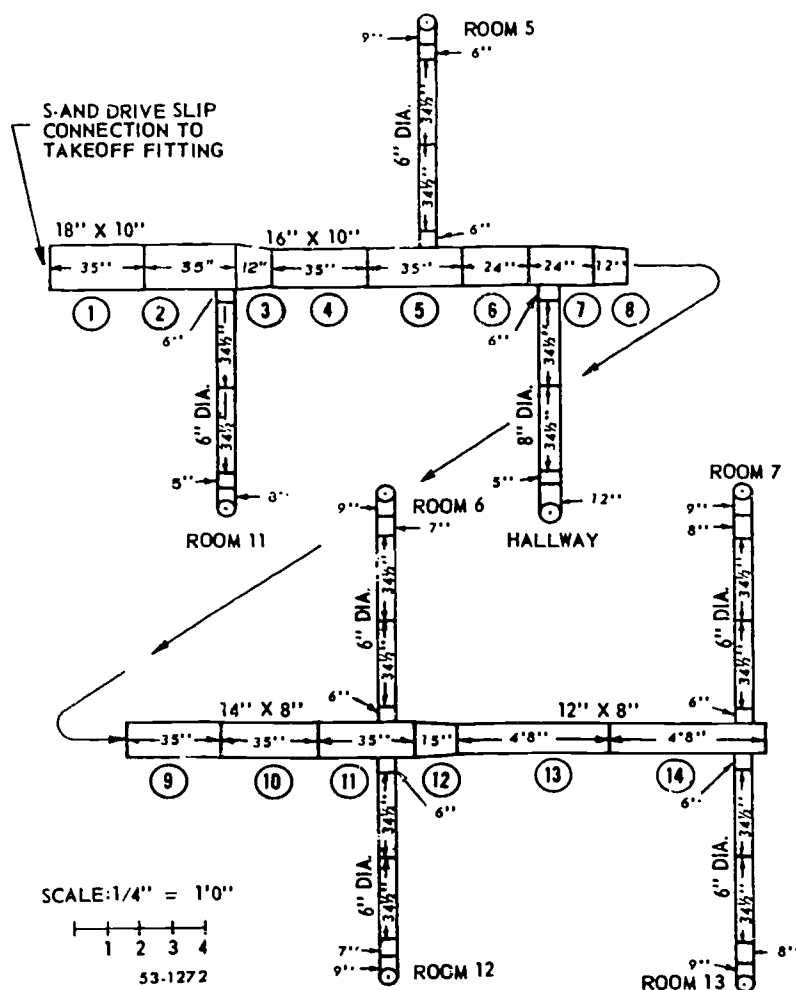
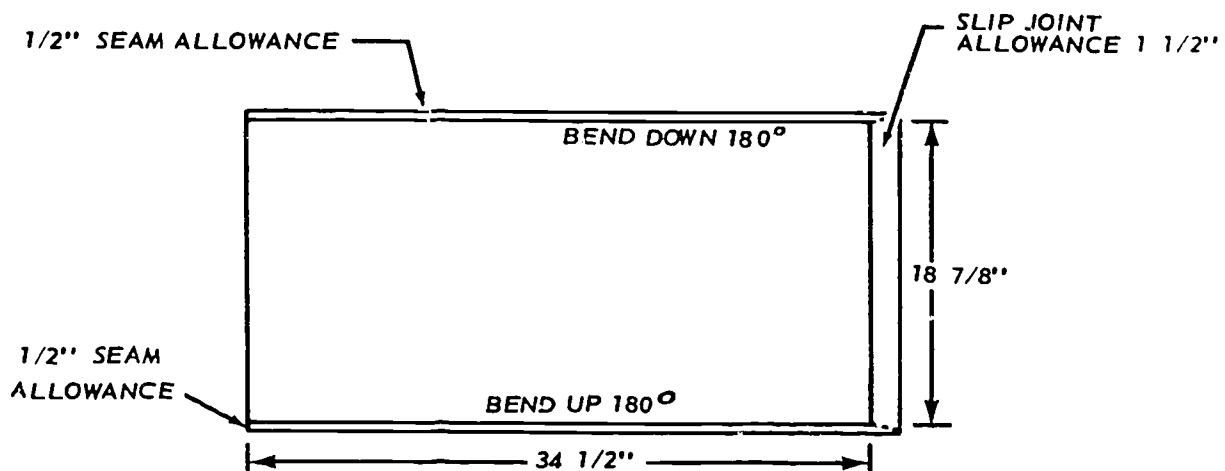
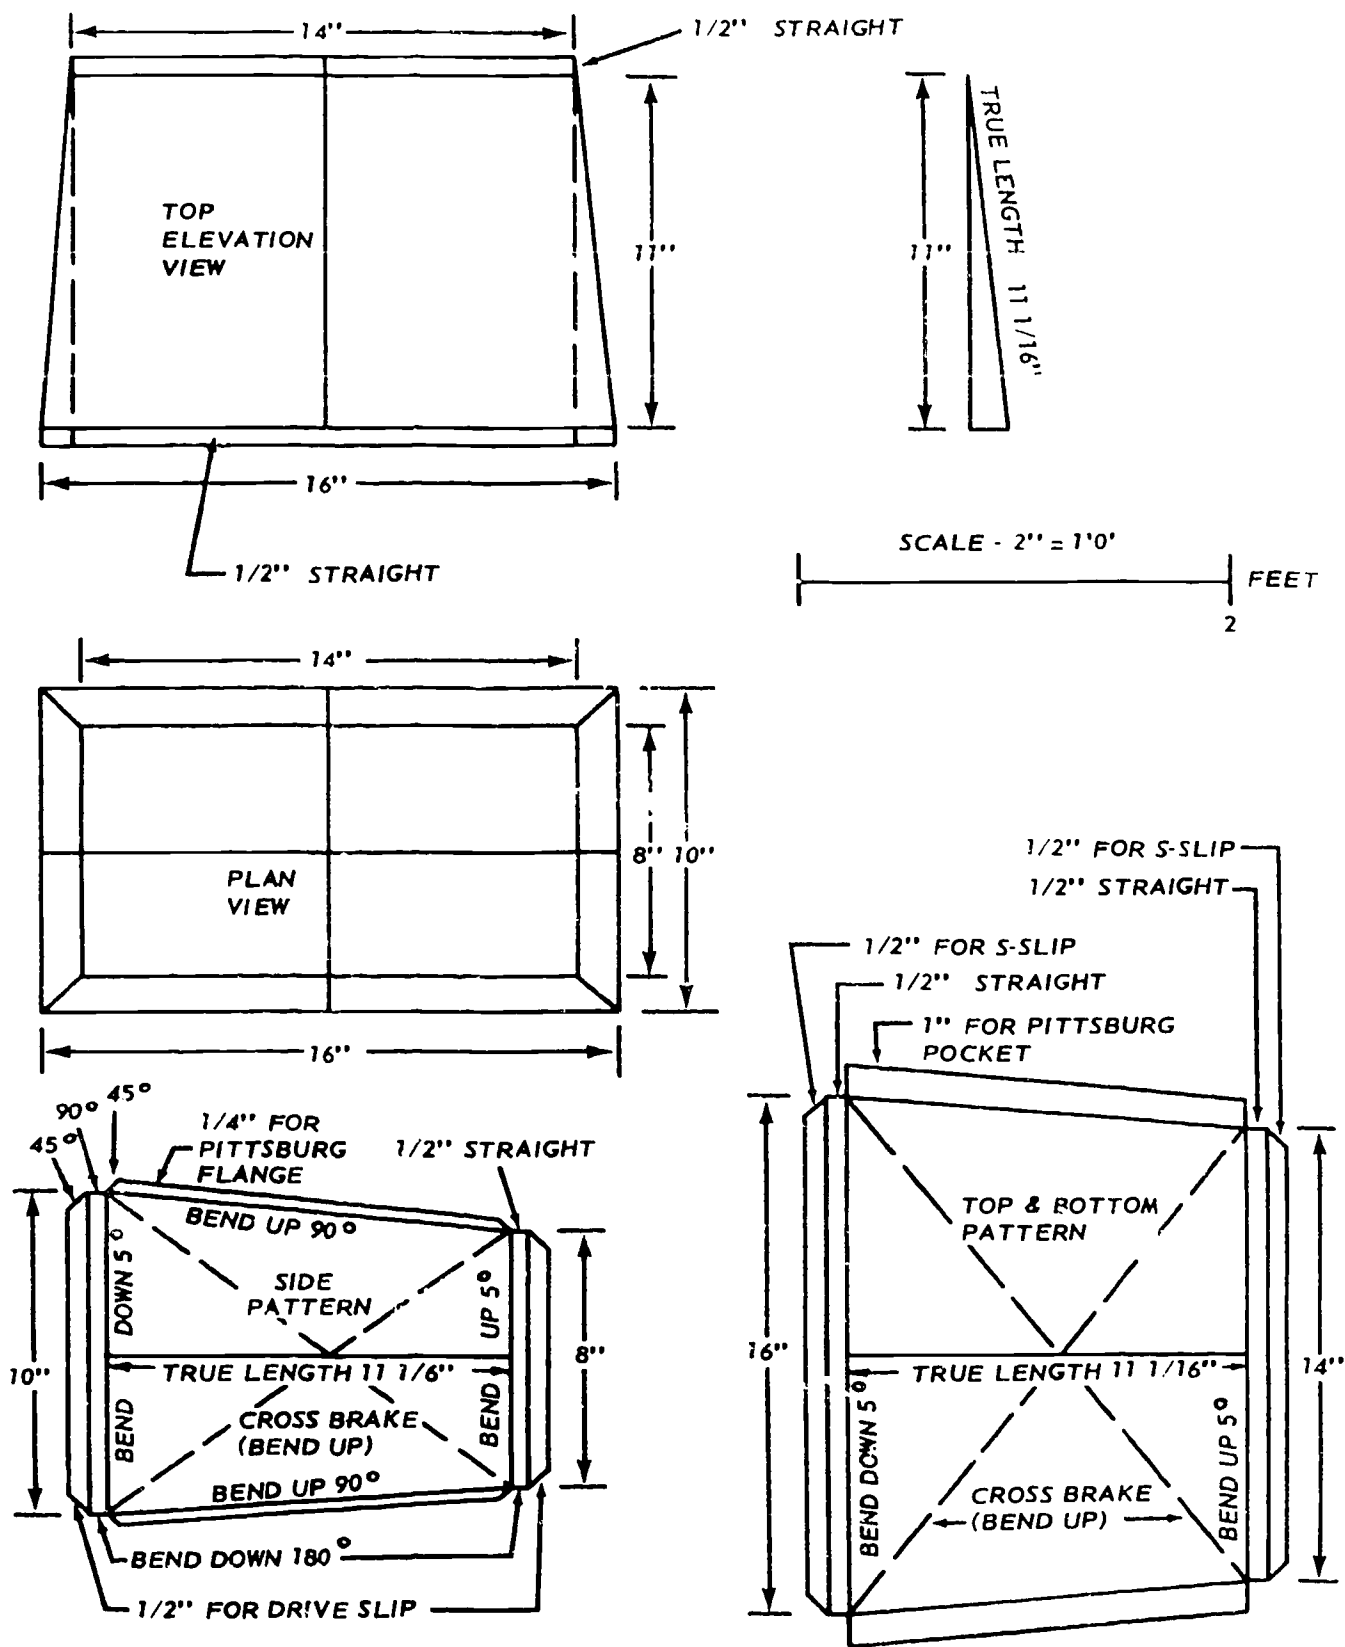

Figure 4-6. Breakdown of trunkline B and branch lines.
Figure 4-12. Pattern for 6-inch round duct joint.
Figure 4-13. Patterns for 16" x 10" to 14" x 8" transition for trunklines B and C.
Now let's determine the size and quantity of sheets needed to plan and fabricate trunkline B. Our first step again is to make a scale drawing of the plan view. Figure 4-6 shows the complete breakdown of trunkline B and its branch lines (Remember to draw only the outside lines and add the joint connection lines and dimensions as you determine the length of each joint). Although we have divided the trunkline into two parts in order to fit them on one page, we recommend that you make your own drawings larger and draw the trunkline in a straight line. The four sections of trunkline B all have the same centerline.
To find the length of the joints for trunkline B, draw the joint connection lines as shown in figure 4-6,
The transitions in trunkline B are joints 3, 8, and 12, as shown in figure 4-6. Transitions 3 and 12 are made in four pieces like the takeoff fitting 7 of trunkline A because only one of the two dimensions reduces. Transition 8 is also made in four pieces but is somewhat different because both dimensions reduce. Later in this chapter when you lay out the patterns for these transitions, you will find that the true length of the sloping sides requires  $1/16$ -inch additional material. Look at sheet 6 in figure 3-8, and you can see that there is sufficient leftover material on the sheet to include the extra  $1/16$  inch needed for joints 3, 8, and 12.
**Branch Lines.** Earlier in this chapter, when you were breaking down the duct system, you learned that trunklines B and C had a total of twelve 6-inch and three 8-inch round duct branch lines. You also found the length of each branch line. Now you are ready to determine how much material they will require and the size and quantity of sheets needed. As with the rectangular duct, the first step is to make scale drawings of the round duct branch lines, as we have done in figure 4-6, 4-9, and 4-10.
You find the pattern dimensions for the 8-inch round duct joints in the same way. Notice in figures 4-6 and 4-9 that not all of the 8-inch diameter joints are on  $34\frac{1}{2}$ -inch centers.
As you continue determining the materials for the branch lines, you notice in figures 4-6 and 4-9 that all of the takeoff fittings are 6 inches long. These takeoffs are simply 6-inch joints of round duct fastened to the trunklines with dovetail seams. Remember from Chapter 1 how dovetail seams are made and that the seam allowance is  $\frac{1}{2}$  inch. Also you note in figures 4-6, 4-9, and 4-10 that the center-to-center lengths of the 6-inch elbows are 9 inches and of the 8-inch elbows are 12 inches. This leaves one short joint in each branch line to compensate for the differences in the length of the
If you are required to make elbows, you will find that, if the patterns for the 5 gores of each elbow are laid out side by side, the 6-inch elbow requires a  $12\frac{1}{4}" \times 19\frac{7}{8}"$  piece of material and the 8-inch elbow requires a  $15\frac{1}{2}" \times 26\frac{1}{8}"$  piece of material. The branch lines shown in figures 4-6, 4-9, and 4-10 include twelve 6-inch elbows and three 8-inch elbows. With this information, you can easily determine how many sheets of metal you need to make the 15 elbows.
**Round duct joint patterns.** All round duct joints in the branch lines are made in the same way except for the dimensions. In figures 4-6 and 4-9, most of the round duct has a 6-inch or 8-inch diameter, with the length made on a  $34\frac{1}{2}$  inch center. Since the sides of the pattern are parallel, the parallel-line method of layout is used. Without allowances, the pattern for a 6-inch round joint on a  $34\frac{1}{2}$ -inch center is a rectangle  $18\frac{7}{8}$ " x  $34\frac{1}{2}$ ", as shown in figure 4-12. The  $18\frac{7}{8}$ -inch side of the pattern is the circumference of the 6-inch joint, and each edge has  $1/2$ -inch allowance for the  $5/16$ -inch grooved seam. Notice that one edge is to be bent up and the other is to be bent down. The length of the pattern is  $34\frac{1}{2}$  inches plus  $1\frac{1}{2}$  inches for the crimped slip joint, making a total length of 36 inches. The patterns for the other round duct joints in the branch lines are like this one, except for their dimensions. The seam and connection allowances are the same for all round joints, except for the round joints that attach to the trunklines with dovetail seams.
**Transition patterns.** Trunklines B and C in figures 4-6 and 4-9 have three transitions each. These six transitions are similar, except for the two that have a reduction in both dimensions (joint 8 of trunkline B and joint 9 of trunkline C). Figure 4-13 shows the development of the patterns by the triangulation method for the sides, top, and bottom of the transition. First, draw a plan view of the larger rectangle (16" x 10"), as shown in figure 4-13. Next, draw the smaller 14" x 8" rectangle inside the larger rectangle. Note the corner diagonals and the centerlines. The next step is to project the vertical lines and make the top elevation view. The height of the transition is 12 inches, but you must leave  $1/2$  inch straight at each end so that the S-and-drive slips will connect properly. This makes the height of the elevation view (not counting the straight)
11 inches, as shown in figure 4-13. The true length (height) of the sloping sides when they are drawn to actual size (or scale) is  $11\frac{1}{16}$  inches, making the total length of the pattern, including allowances,  $13\frac{1}{16}$  inches.
The patterns for the top and bottom, before the S-and-drive allowances are included, are identical to the elevation view except that the true length is used. To the top and bottom pattern in figure 4-13, you must make  $1/2$  inch S-and-drive allowances at each end, and make 1-inch Pittsburgh seam pocket allowances at both edges. Notice how the straights are bent, one up  $5^\circ$  and one down  $5^\circ$ . The patterns for the two sides of the transition are identical. In figure 4-13, the 1-inch straight on the widest end is 10 inches long, and the other straight is 8 inches long. These straights are  $11\frac{1}{16}$  inches apart. Notice the allowances of  $1/2$  inch at each end and  $1/4$  inch at each side. In both patterns, the bending instructions, notching instructions, and cross brake lines are shown.
**Cutting and Notching.** Such patterns as those shown in figures 4-13 and 4-14 contain information you can use for cutting and notching. For example, figures 4-4 and 4-8 show how you can arrange the patterns on full-size sheets in such a way that you will have very few leftover pieces after cutting. This information, combined with what you learned about sheet metal cutting equipment in Volume 2 of this course, should help you cut and notch patterns of almost any shape. Most of the patterns for this heating and air-conditioning duct system can be cut with squaring shears or unishears and notched with straight snips.
The patterns for the round duct joints are easy to cut because they are rectangular and do not have notches. Figure 4-12 shows the pattern for the 6-inch round joint used extensively in the branch lines. Note that the size of the pattern, including allowances, is 19⅞" x 36". Patterns this size can be cut from 3' x 8' or 3' x 10' sheets with very little leftover material. Since several joints of this size are to be made, you can save time by setting the back gage of the squaring shears for 19⅞ inches and cutting all of the pieces from whole sheets of metal.
The patterns for the transitions shown in figure 4-13 are to be cut from sheet 6 in figure 4-8. Notice that we estimated the top and bottom patterns to be 13" x 18", but because of the true length of the sloping sides, the pattern requires 13" x 18". This additional 1/16 inch can be obtained from the leftover space on sheet 6 (fig. 4-8) without affecting the other patterns. This same additional 1/16 inch is needed for the 2-side patterns,
**Notching patterns.** You make the slits and notches in patterns with straight snips or throatless shears. The straight snips are used most often, but throatless shears have more leverage and require less effort. When using either of these, you must be careful not to make the cuts any longer than is specified on the pattern. Notching is needed so that you can bend the sheet metal along the brake lines indicated on the pattern and can assemble the Pittsburgh lock seams more easily, assemble S-and-drive slip joint connections more easily, and install the drive slips more easily. You cut V-notches and slant notches at 45° angles, and square notches at 90° angles. In figure 4-13 you can see examples of these notches. You use V-notches along the 1/2-inch allowances for the S-and-drive connections, slant notches at each end of these 1/2-inch allowances, and square notches at each end of the 1-inch Pittsburgh seam allowance. You can cut all of these with straight snips. Notice at the righthand end of the pattern how one cut makes the slant notches for two sides at one time.
The pattern for the round duct joint in figure 4-12 does not require any notches because there are no cross bends to make when you assemble the joint.
The patterns for the 16" x 10" to 14" x 8" transition shown in figure 4-13 have 45° and 90° notches at each corner. Although these notches are arranged somewhat differently from the notches for the rectangular-shaped duct, they are cut with the straight snips in the same manner.
**Round duct joints.** Forming and assembling a round duct joint is not difficult. Although round duct joints can be made with handtools, several machines can make the job much easier. Squaring shears cut the patterns, and the machines you can use for the forming processes include a Pittsburgh machine for making the grooved seams (fig. 2-6), a slip roll machine for forming the sheet into a cylindrical shape, and a crimping machine and beading machine for making the crimp and bead of a slip-joint connection. The pattern shown in figure 4-12 is assembled with a grooved seam, which was discussed in Chapter 3. A Pittsburgh machine can be used to turn back the 180° edges of the grooved seam, as shown in figure 2-6. Notice that one edge of the pattern must be turned up and the other edge must be turned down so that they will lock when the piece is rolled up and joined. When the Pittsburgh machine is used, the turned-back edges will fit tightly enough so that you can lock the seam with a mallet and hollow mandrel. All of the round duct joints in foldout 1 are the same, and only the dimensions of the patterns differ. If you need to refresh your memory about these machines, refer to Volume 2 of this course.
**Transitions.** Forming and assembling the transition patterns shown in figure 4-13 are more complex than forming and assembling round or rectangular joints because of the multiple bends required. However, if you first determine the best sequence for making the bends, the job is not difficult. Since these patterns are not too large, the standard 1-2-3 folding sequence can be used. (Step 4 is not needed for this component.) First, use the cornice brake to bend the metal up 10° to 15° along the cross brake lines on all four patterns.